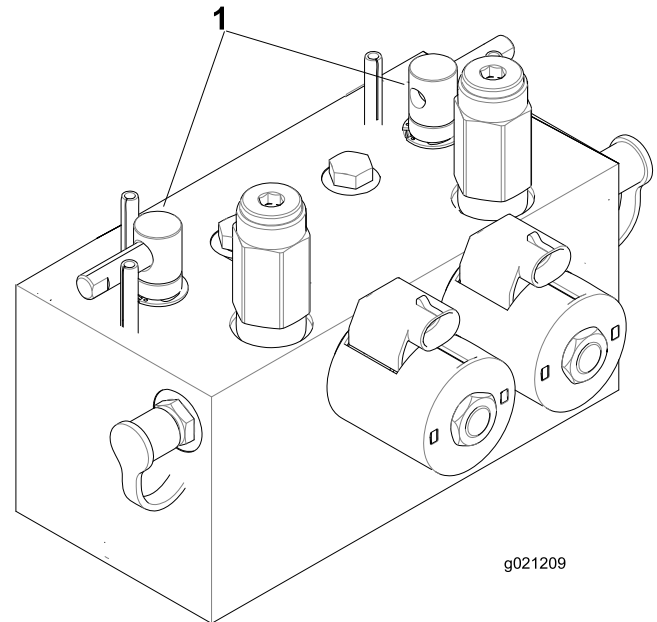

Figure 69
2. Unlock and raise the seat to expose the backlap levers (Figure 69).
5. Select either front, rear, or both backlap levers to determine which units to backlap (Figure 69).